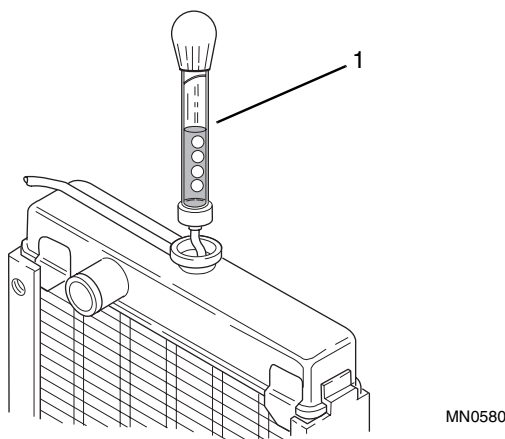

Figure 10-24 Testing Antifreeze Concentration
1. Check antifreeze concentration (Fig. 10-24, 1) several weeks before the beginning of the cold season. Use any suitable tester capable of measuring the lowest expected temperatures in your region, and follow the instructions provided with the tester.